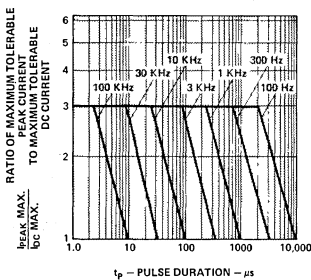

Figure 5. Maximum Tolerable Peak Current vs. Pulse Duration (IDC MAX as per MAX Ratings)
1. See Figure 5 (Red), 10 (Yellow), or 15 (Green) to establish pulsed operating conditions.